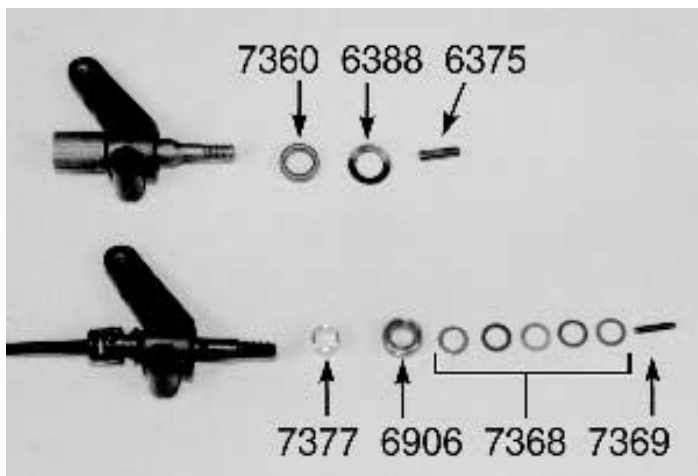
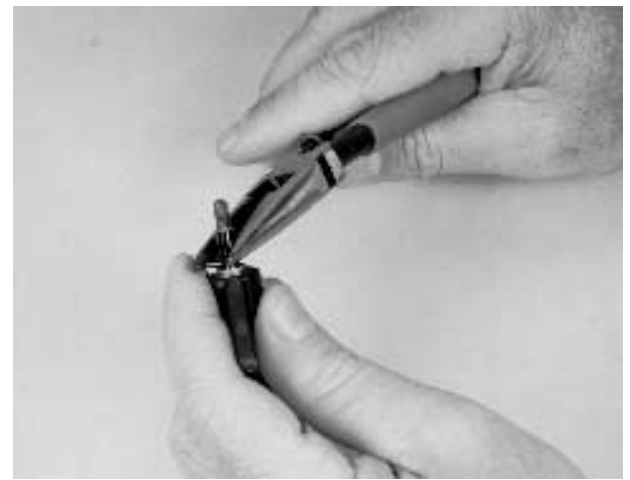

Fig. 101
Fig. 102
If you have a bushing T2 you will need to remove two #6374 rear stub axles, two #6375 3/32" roll pins, two #6388 axle cone washers, and the small bag containing the four #7360 1/4" x 3/8" unflanged bushings. See top of fig. 101.
BALL BEARING KIT: (1) Slide one of the #7368 rear axle shims onto the axle, (2) followed by one of the #6906 ball bearings, (3) and this will be followed by one of the #7377 bearing spacers. (4) From the back side install the assembled #7367 universal axle into the #7365 rear hub carrier. Use the axle to seat the bearing into the back side of the rear hub carrier. (5) Now install a second #6906 bearing over the axle into the front side of the hub carrier (bottom of fig. 101). Be careful to seat it correctly without damaging the bearing race dust shield. (6) Take five of the #7368 shims and slide them onto the axle up against the outer bearing. (7) Use your needlenose pliers to install the #7369 1/16" rear axle spring pin (see fig. 102). Make sure that you center the spring pin to the best of your ability. This will prevent any problems when installing the rear wheel later in the manual. (8) Go ahead and repeat the above steps for the second axle. They both go together the same way.
BUSHING KIT: (1) Slide one of the #7360 bushings onto the #6374 rear stub axle. (2) Now slide the rear stub axle and bushing into the back side of the #7365 rear hub carrier. (3) Next install the second #7360 bushing over the axle and push it into the front of the hub carrier. (4) This will be followed by the #6388 cone washer. We want to install the cone washer so that the raised outer edge of the washer is facing away from the bushing. (5) Now you will need to take your needlenose pliers and install the #6375 roll pin into the hole drilled in the rear stub axle (see fig. 102). *Racer's Tip: You can use your needlenose pliers to gently close the split on one end of the roll pin. This slightly smaller end will then be easier to get started into the roll pin hole.* Make sure you do your best to center the roll pin in the hole. This will prevent any problems when installing the rear wheels later in the manual. Go ahead and assemble the second axle the same way.